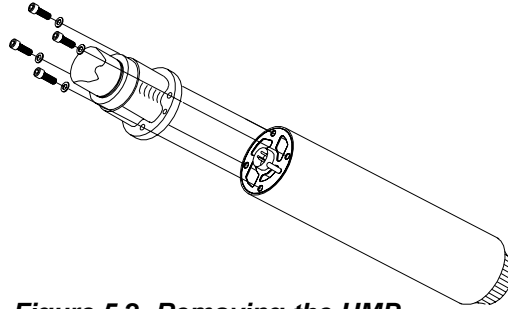

Figure 5.2 Removing the UMP
- 2: Remove the old UMP by removing the four bolts from the discharge head as shown in figure 5.2.